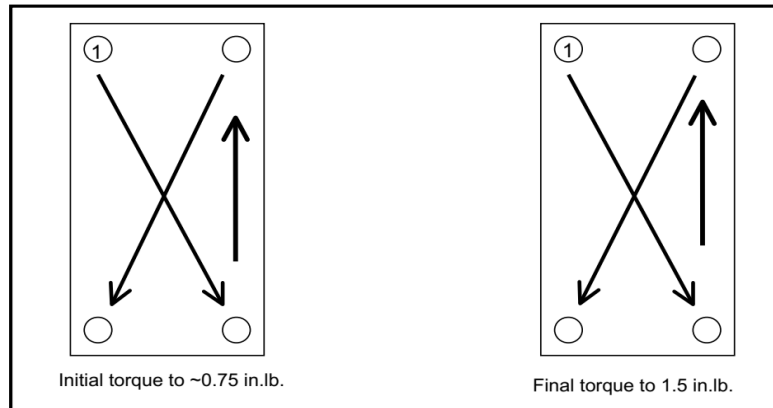

Figure 2: Bolting Pattern and Torque Specifications for Mounting a Butterfly Module
- Follow a X-style bolt pattern when mounting the laser module (refer to Figure 2 below).